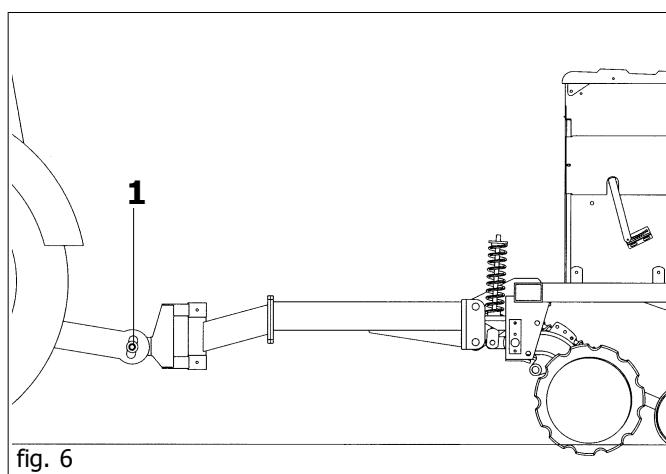

fig. 6
- 1) Hook the lifter bars on the preset pins (1 fig. 6). Block with the snap split pins.